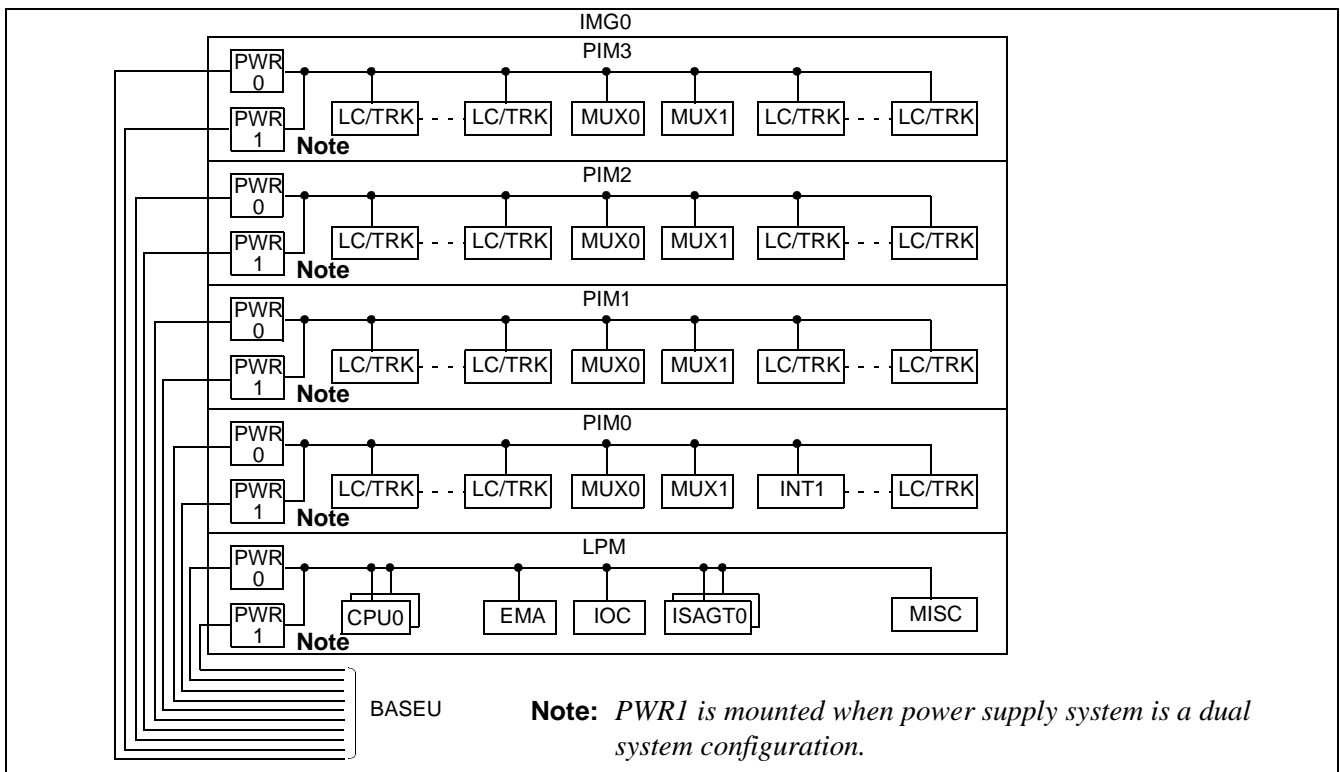
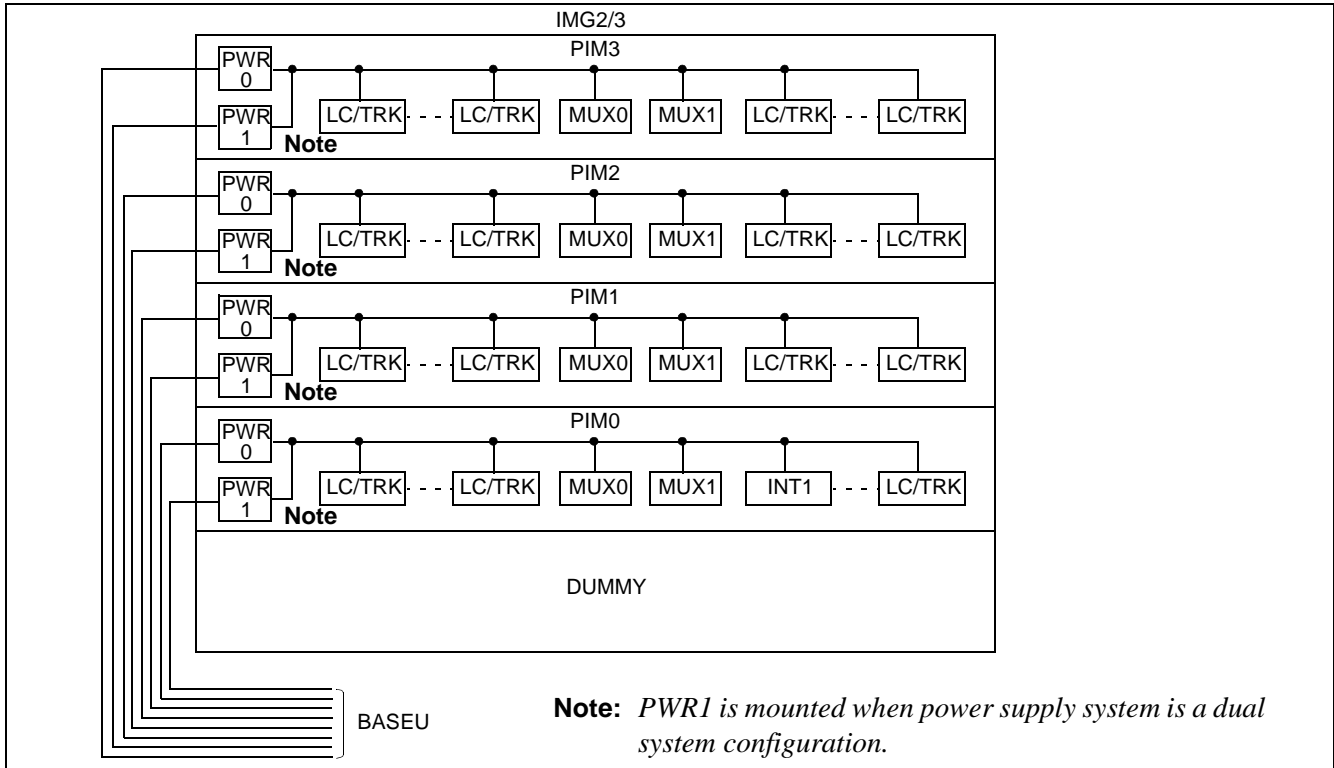

Figure 5-13 Block Diagram of Power Supply System (IMG0)
Figure 5-15 Block Diagram of Power Supply System (IMG2/3)
- (1) Before checking the system, check the rectifier, battery, and power cables.
- (2) The PWR circuit card is equipped with the circuits to supply ringing signal and howler tone. When a fault occurs that causes the bell of the telephone not to ring, or howler tone cannot be heard, etc., check the alarm lamp on the PWR circuit card.
- (3) Figure 5-13 through Figure 5-15 show the block diagrams for the power supply to each module.